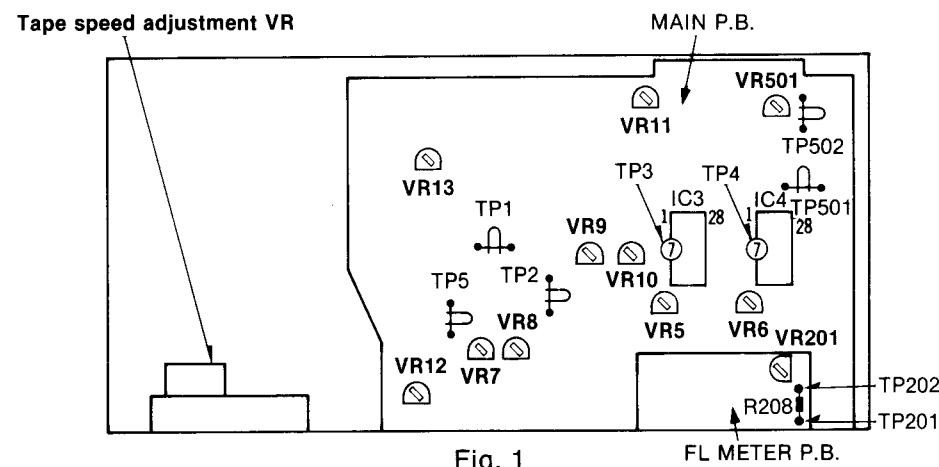

Fig. 1
| 1        | 1         | Case cover                              | <ul style="list-style-type: none"> <li>• 2 ornament screws .....(A)</li> <li>• 3 screws .....(B)</li> <li>• As shown in fig. 1, pull case cover in the direction of arrow ①.</li> </ul>                                                                                                                                                                                                    | 121                   |
- If measured value is not within the standard value, adjust it by using the tape speed adjustment VR shown in Fig. 1.
1. If the measured value is not within standard the adjust VR5 (L-CH) or VR6 (R-CH) (See fig. 1).